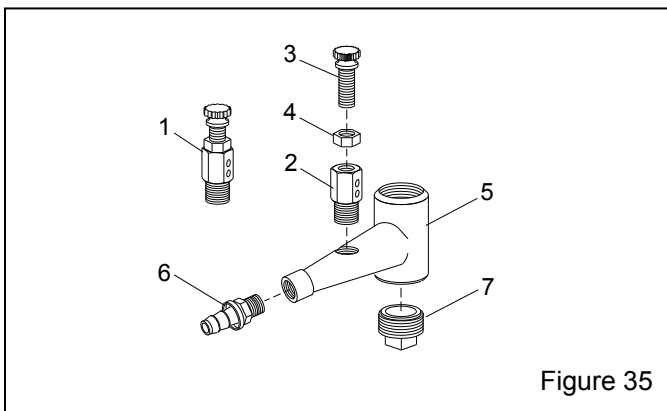

Figure 35
**9.7 Metering Valve Assembly, Figure 35**